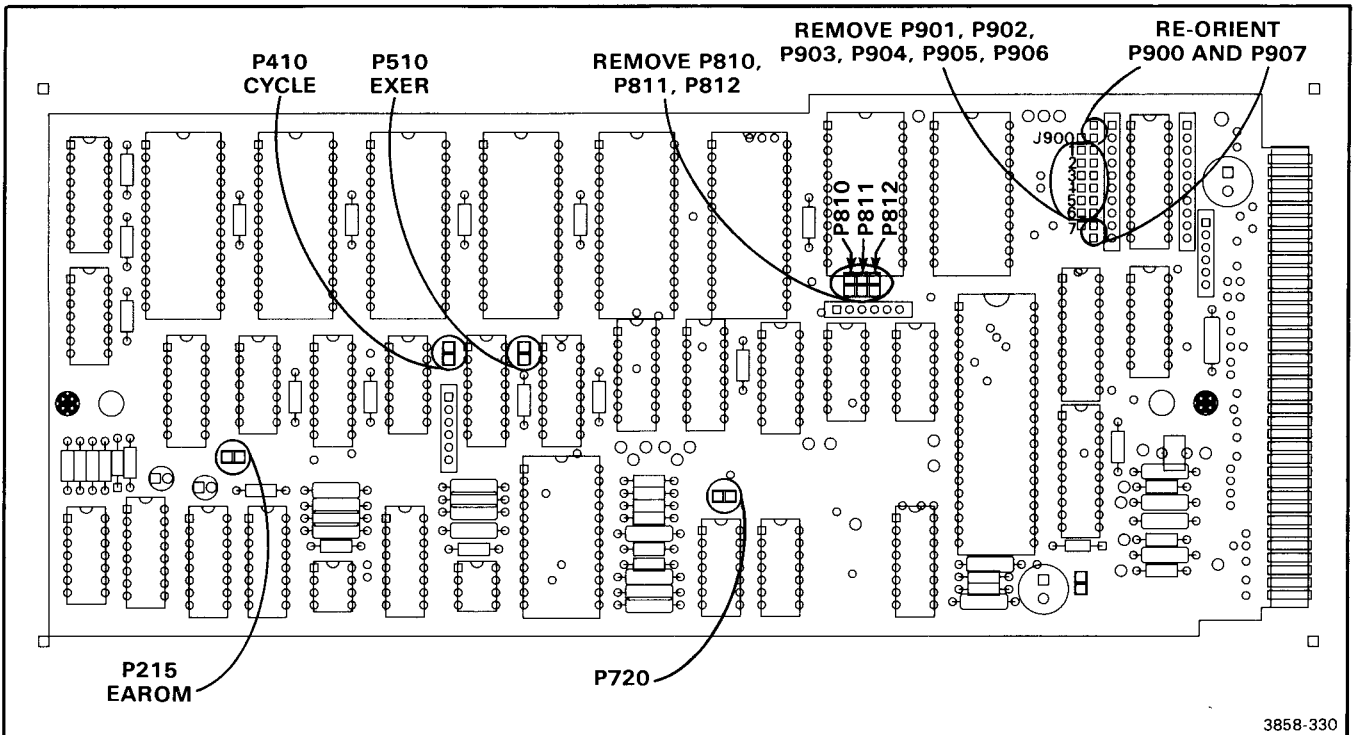

Figure 3-33. Configuration of jumper connectors on MPU Board for Forced Instruction Freerun.
| P215 | } | See Figure 3-33 |
7. Remove P900 and P907, then install them as shown in Figure 3-33.
8. Check that the connector installation matches that shown in Figure 3-33.